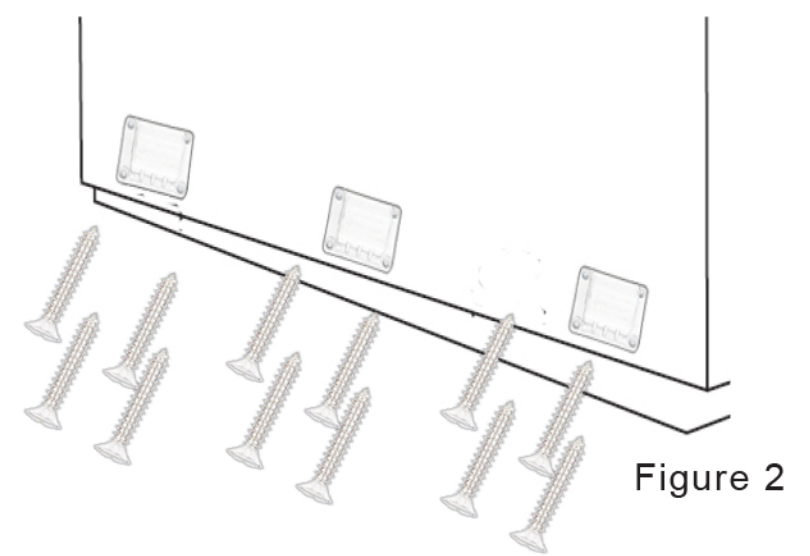

Figure 2
2 Using the **#8 x 1-1/4" mounting screws (I)**, attach the **Mounting Brackets (F)** to the back side of the spa. Space the Mounting Brackets evenly across the width of the spa. (See Figure 2).